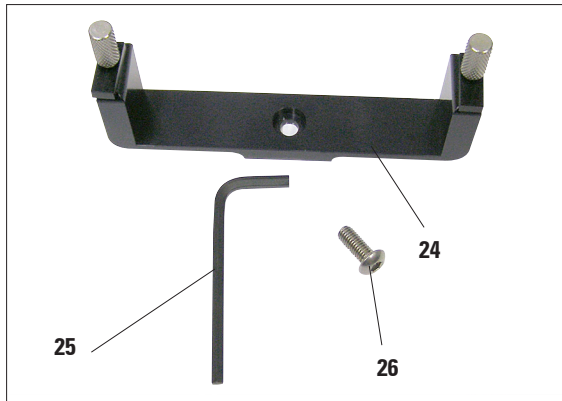

Fig. 9
- Fasten the u-frame bracket (24, Fig. 9) for the deluxe specimen bath in the main specimen bath with the corresponding countersunk hexagon screw (26) on the round specimen stage (27).